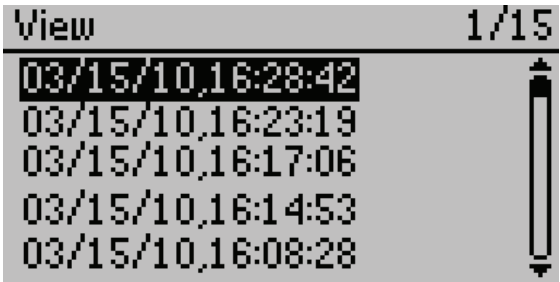

Figure 13 View data summary screen
- 3. Scroll through the list of saved tests using **UP** and **DOWN** (Figure 13).